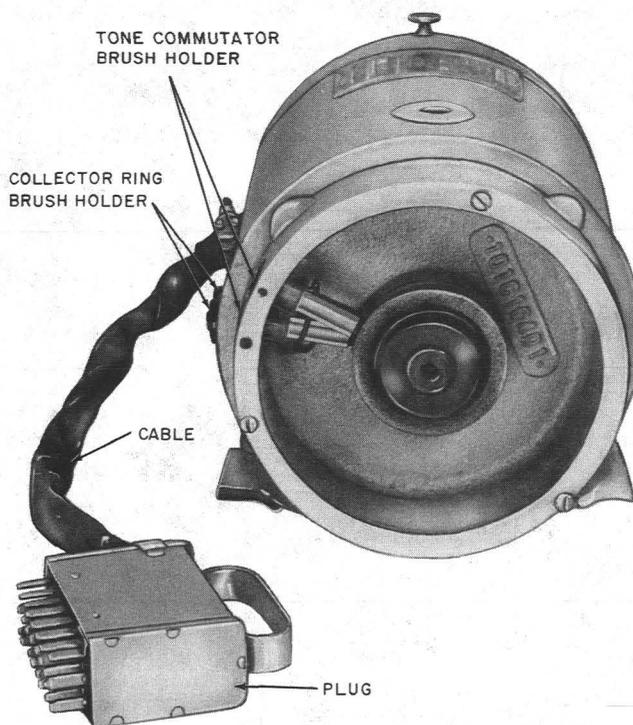

Fig. 13—Collector Ring Brush Holders—KS-5319-04, L3 Manufactured by Commercial Electric Products Corporation
3.07 Motor Brush Holders, Collector Ring Brush Holders, and Tone Commutator Brush Holders: To replace a motor brush holder, collector ring brush holder, or tone commutator brush holder, take off the cover over the particular holder to be replaced and remove the brush as outlined in 3.06. Disconnect the lead to the brush holder. Loosen the brush-holder setscrew and withdraw the brush holder. Replace with a new brush holder and reassemble in the reverse order, making sure that the holder is so aligned that the brush will line up with the shaft squarely and tighten the brush-holder setscrew. The replacement of collector ring brush holders on machines manufactured in accordance with Fig. 13 will require the removal of the armature as outlined in 3.08.